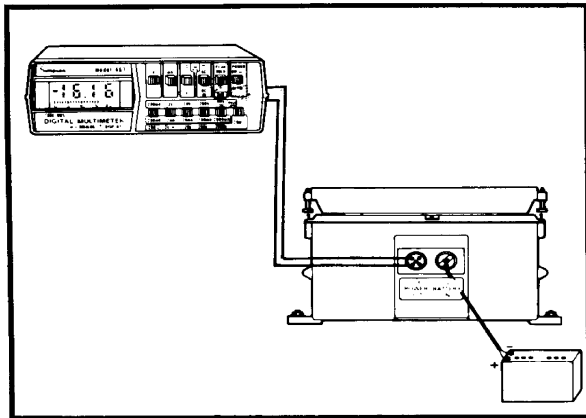

Figure 4. DC output voltage check.
6. Perform initial procedure (Figure 4).